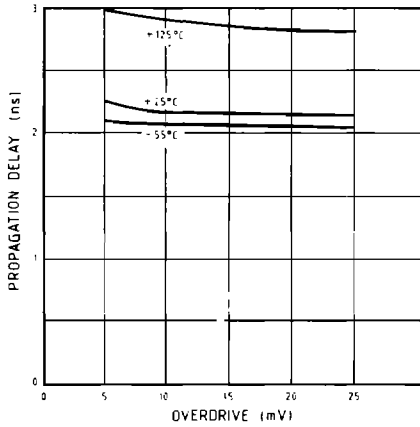

Fig.6 Propagation delay, input to output as a function of overdrive
- 100mV pulse with 10mV overdrive. See Figs.6 to 8.